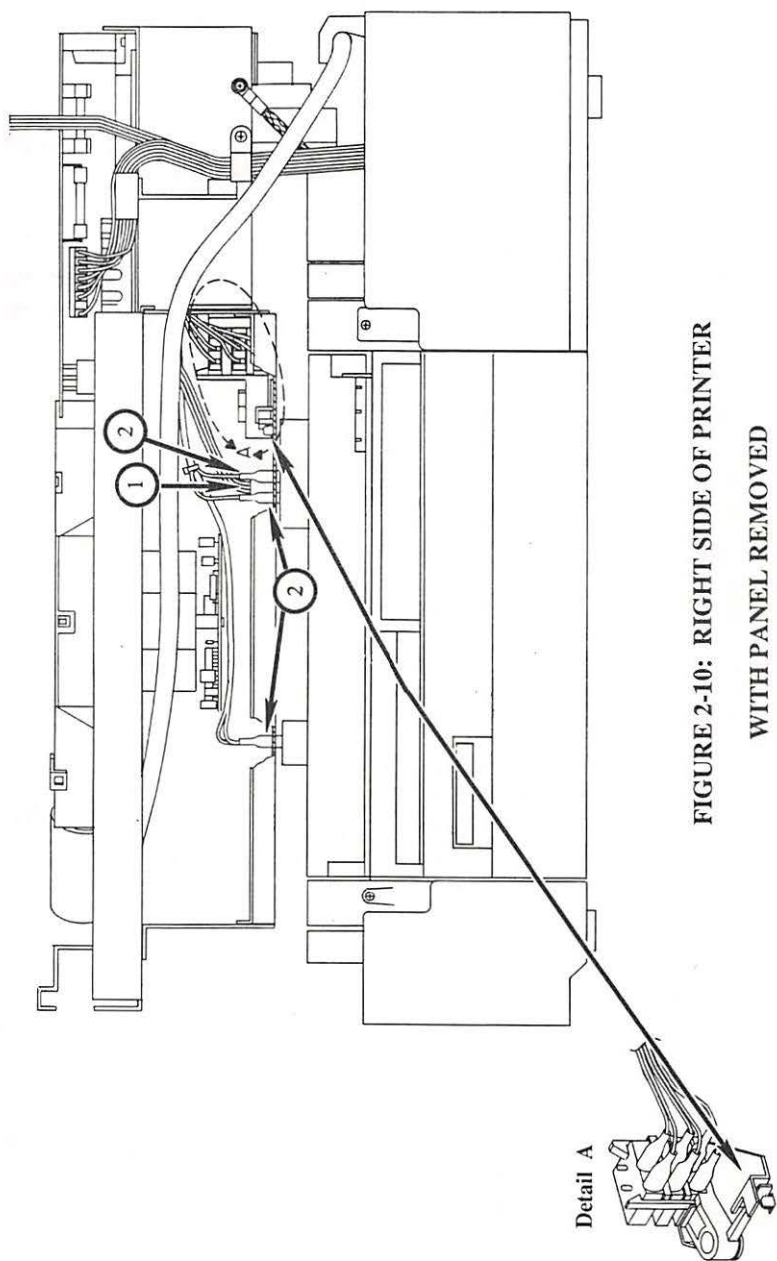

FIGURE 2-10: RIGHT SIDE OF PRINTER
IMPORTANT: Before starting, locate the cartridge-detect microswitch assembly and note how the white plastic arm is seated between two metal tabs (see Figure 2-10, Detail A). This is your test for whether the assembly has been replaced correctly. If the white plastic arm is not properly seated, the printer will not function: it will "think" that the toner cartridge is not installed and the green READY light on the front panel will not come on.
3. Using long-nose pliers, remove the three-wire connector (see Figure 2-10, #1) and the four fast-on connectors (see Figure 2-10, #2).
2. Lift the shutter assembly into its place in the top of the printer. Check the white plastic arm of the microswitch unit to make sure it is correctly seated. (See Figure 2-10, detail A.)